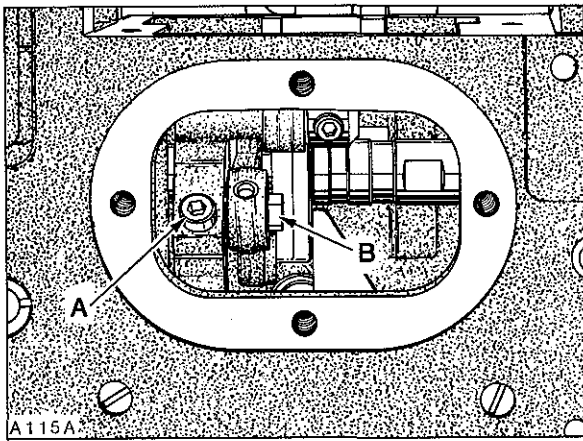

Fig.17
Loosen Allen screw (A, Fig. 17) and turn eccentric (B) while rotating handwheel in operating direction to obtain equal clearance in throat plate, front and rear. Tighten screw (A) securely.